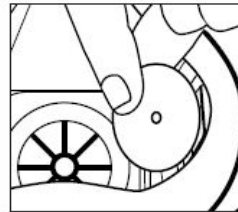

Fig. 9
1. Remove existing valve(s) by lifting from post(s) (Fig. 9).